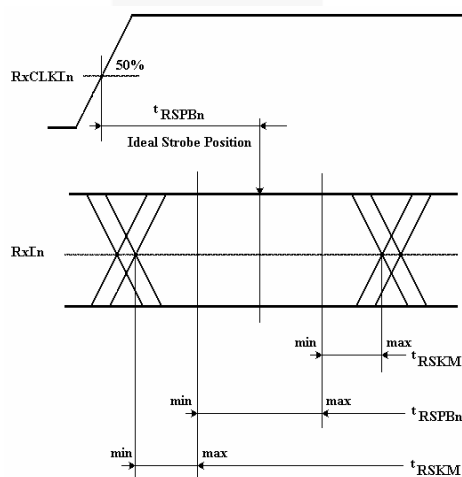

Figure 21. Receiver Input Bit Position
| $t_{RSPB0}$ | Receiver Input Strobe Position of Bit 0                    | Figure 21$f=40\text{MHz}$                                       | 1.00 | 1.40 | 2.15 | ns            |
| $t_{RSPB0}$ | Receiver Input Strobe Position of Bit 0                    | Figure 21$f=66\text{MHz}$                                       | 0.7  | 1.1  | 1.4  | ns            |
| $t_{RSKM}$  | RxIn Skew Margin (20)                           | $f=40\text{MHz}$ , Figure 21                                        | 490  |      |      | ps            |
|             |                                                            | $f=66\text{MHz}$ , Figure 21                                        | 400  |      |      |               |